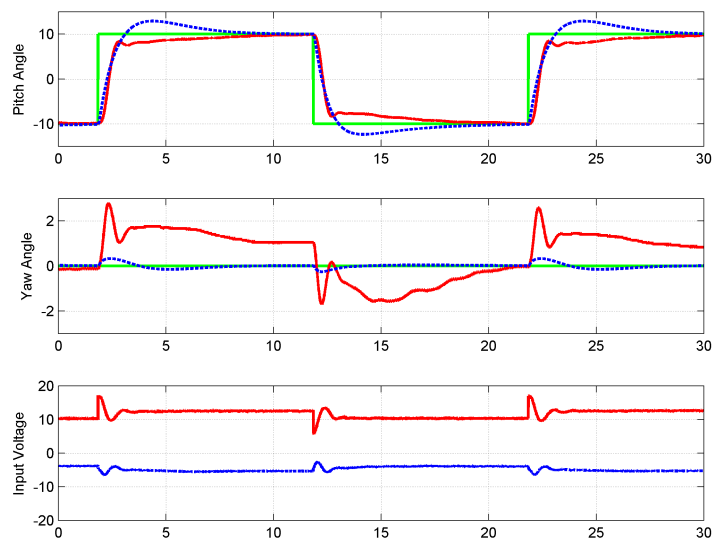

Figure 5.22: Closed-loop LQR+I response under pitch reference step
19. Set the *Amplitude: Pitch (deg)* to 10 and the *Pitch: Constant (deg)* to 0 to observe the LQR+I response under a step pitch reference. The result should be similar to the response shown in Figure 5.22. Note that the steady-state error is removed.